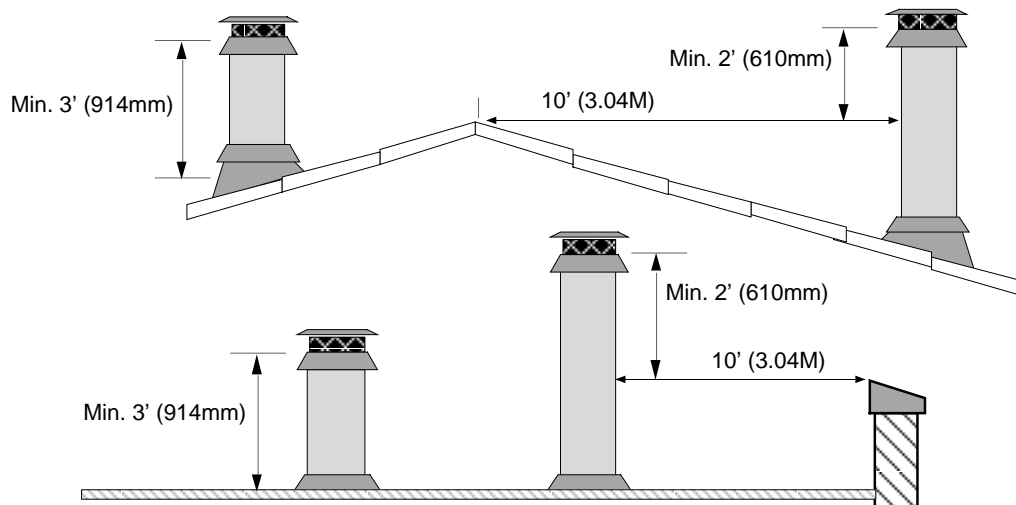

Figure 5
- Must terminate at least 3' (914mm) above the roof **and** at least 2' (610mm) above any portion of the roof within 10' (3.04M) - see Figure 5.